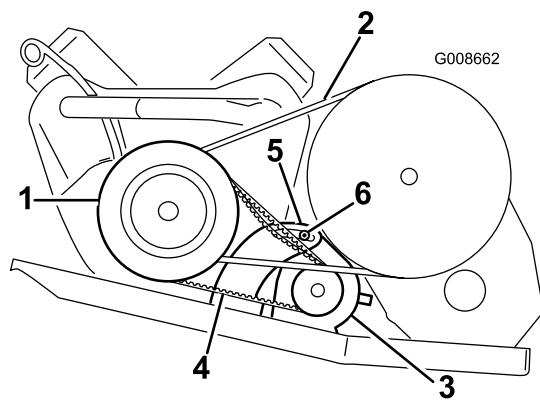

Figure 47
2. Loosen the starter generator pivot nut (Figure 47).
4. Tilt the starter in the slot until the belt flexes 1/4 inch (6 mm) with 10 lb (44 N) of force (Figure 47).
5. Tighten the starter generator nut and remove the pry bar (Figure 47). Torque the nut to 65-85 ft-lb (88-115 N-m).